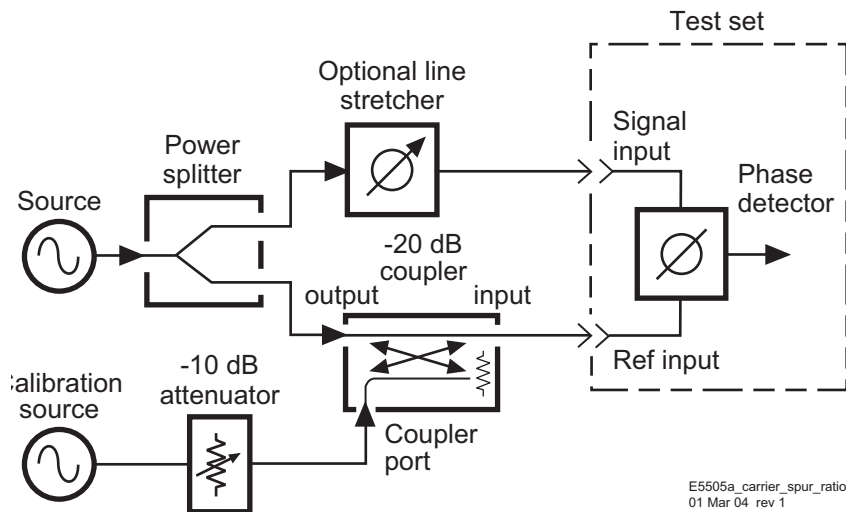

Figure 160 Carrier-to-spur ratio of modulated signal
- 3 Measure the carrier-to-single-sided-spur ratio out of the coupler at the phase detector's modulated port and the offset frequency with the RF spectrum analyzer (Figure 160). The RF calibration source should be adjusted such that the sidebands are between -30 and -60 dB below the carrier and the frequency offset of the spur between 10 Hz and 50 MHz.